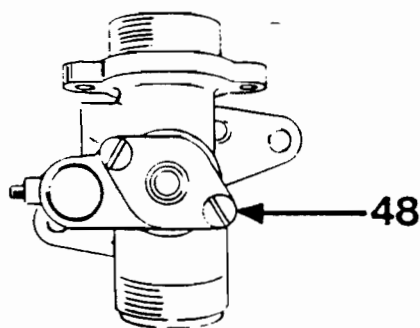

FIG. 19
Remove the two fixing screws (48) and the retaining plate located behind the control knob (Fig. 19.).